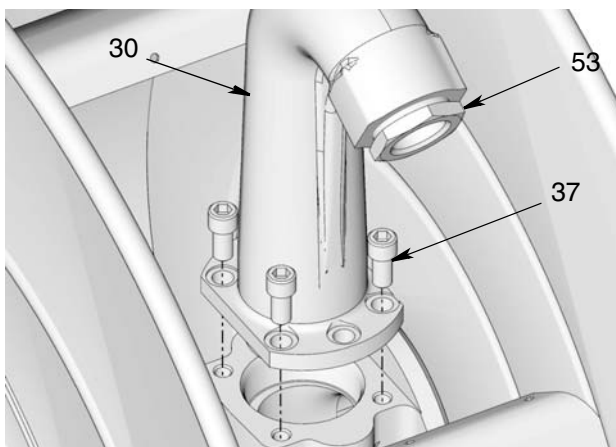

**FIG. 5**
1. If the hose reel is not installed in a fixed location, use 2, large c-clamps (B) (one on the front and one on the back) to secure the hose reel to a flat surface (FIG. 5). Graco recommends placing a rag over the bottom roller and the back frame to protect these surfaces from damage when the c-clamps are tightened down.